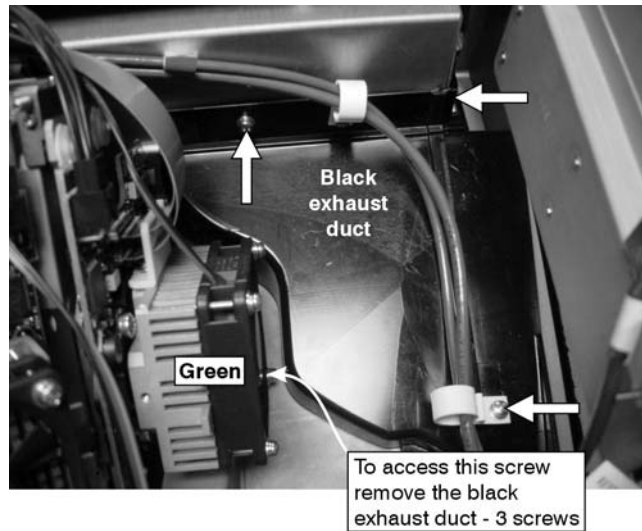

Figure 15. Accessing the Green DMD Fan
3. Remove the black exhaust duct located just in front of the fan – three (3) screws. (Figure 15.)
4. Remove the four (4) screws securing the fan to the light engine.